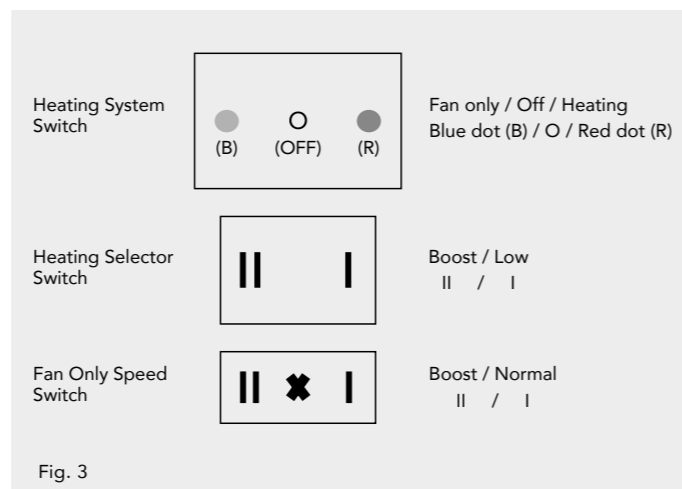

Fig. 3
Comfort Mode Provides room temperature control for when the room is occupied (see Fig. 3). Heating mode – Electric To enter this mode: • Set the fan only/off/heating switch to heating (red dot) • Set the output switch to position I • Select the fan speed switch to position I The unit will now run on low speed. To operate the PHK at 2kW or the PHE at 3kW: • Set the output switch to position II The unit will now run on high output.	The display will show the ambient temperature. Press OK, set temperature will begin to blink. Use ◀ or ▶ to adjust the required room temperature. Press OK to confirm. The ambient room temperature will then display. Default setting +21°C Max temp setting +30°C Min temp setting +5.5°C Note: The thermostat has a LED indicator that will change colour depending on the following: ≤21.0°C = Green 21.5°C - 24.0°C = Orange ≥24.5°C = Red Note: To see the set temperature simply press ↻.
- Voltooi de elektrische installatie, zet het apparaat aan en test de KICKSPACE® (zie afb. 3).